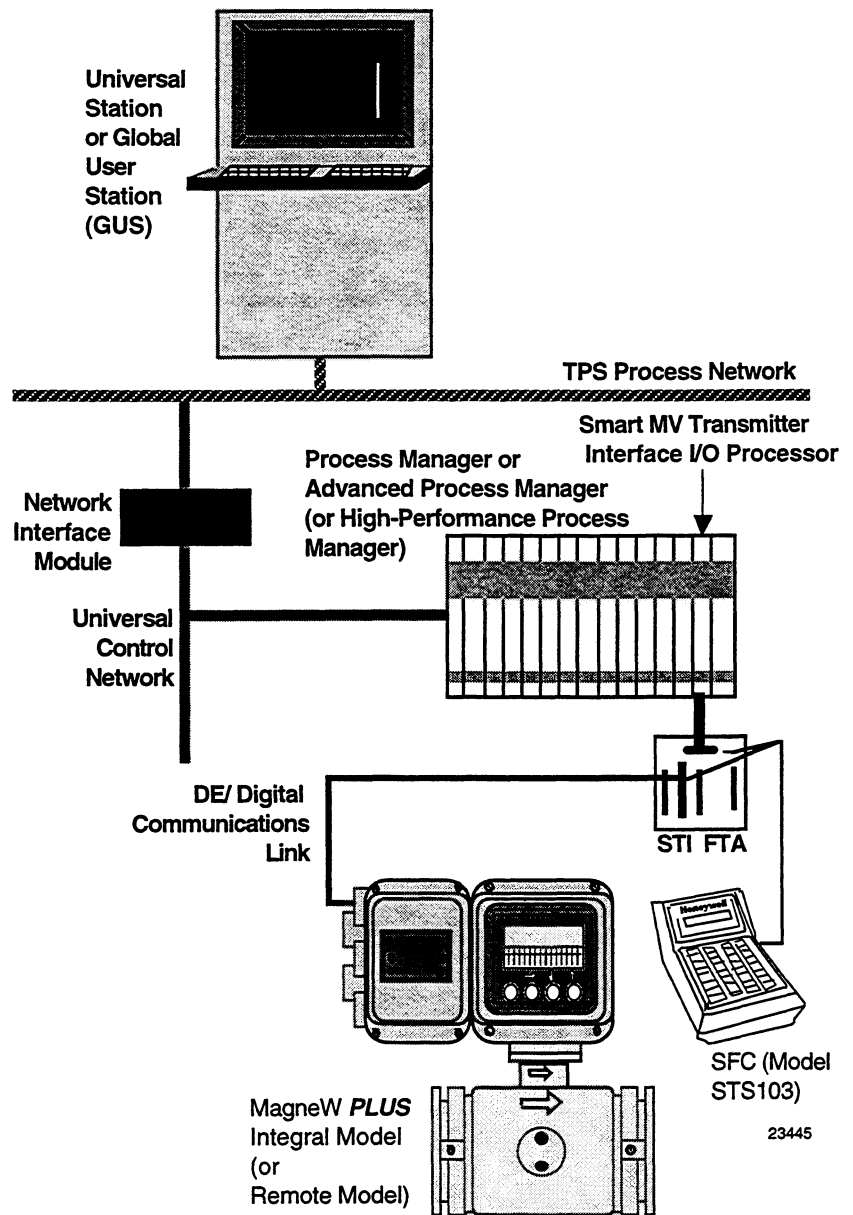

Figure 6—Typical MagneW 3000 PLUS Communications Hierarchy for TPS
To “talk” to a flowmeter through displays at the Universal Station or GUS, the transmitter is connected to a Smart MV Transmitter Interface Input/Output Processor (STI IOP) in the Process Manager (PM), Advanced Process Manager (APM), or High-Performance Process Manager (HPM) through an FTA as shown in Figure 6. The flowmeter must be in the DE mode to communicate with the STI IOP.